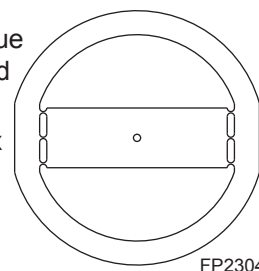

**Figure 34 -
- The maximum angular variation allowed in the system is 270°. *Figure 34*